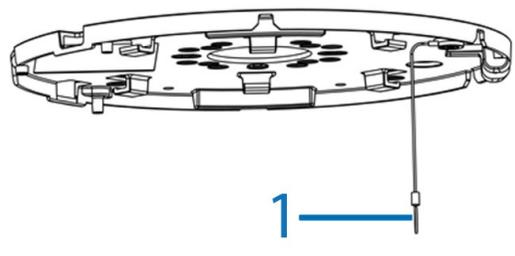
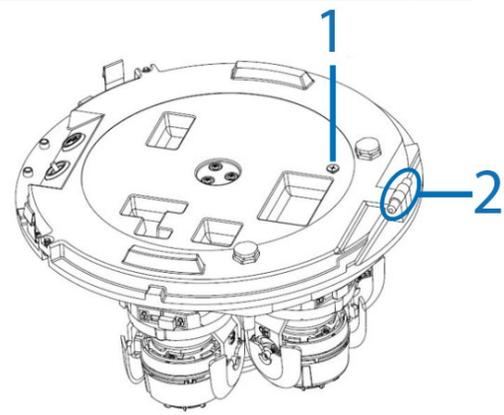
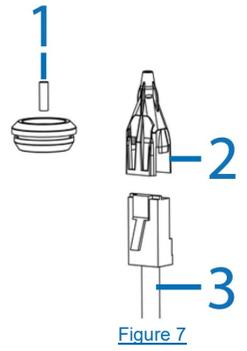
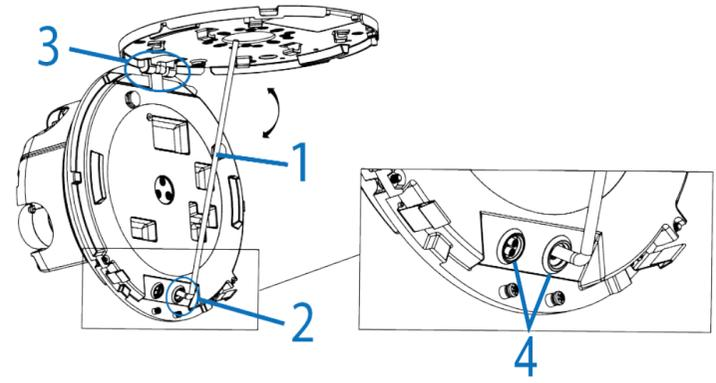

Figure 5
Figure 6
Figure 7
Figure 9
7. Hold the camera lens module up to the mounting plate and insert the 'loop' on the safety lanyard (1) (Figure 5) that is attached to the mounting plate to the screw (1) (Figure 6) on the camera lens module.
8. Insert the 'hinge pins' (2) (Figure 6) on the camera module lens into the 'hinge knuckle' on the mounting plate. **'3' in Figure 9 identifies how the camera lens module and mounting plate attach together.**
10. Insert the RJ-45 cable (3) (Figure 7) into the insert tool (2) (Figure 7) remove the rubber grommet (2) (Figure 9) from the camera lens module.
11. Pierce the rubber grommet (1) (Figure 7) by passing the insert tool and cable through the center of the rubber grommet.
12. Pass the insert tool and cable (2) (Figure 9) through the rubber grommet hole (3) (Figure 9) on the camera lens module.
**WARNING: Ensure that both rubber grommets (4) (Figure 9) are securely inserted into the camera lens module before operation.**
- Ensure that **both** rubber grommets (4) (Figure 9) are securely inserted into the camera lens module before operation.